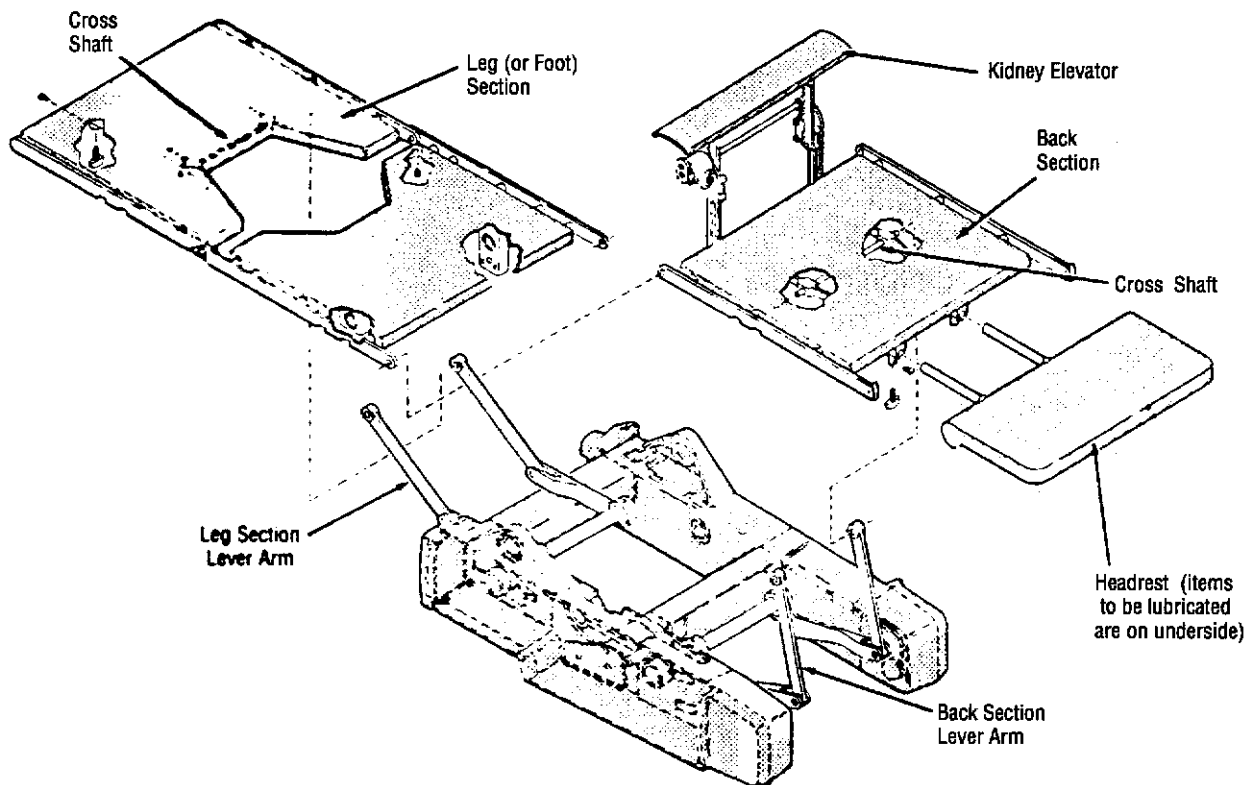

Figure 6-4. Kidney Elevator and Tabletop Sections
1. Service kidney elevator and tabletop positioning linkage (see Figure 6-4) as follows: